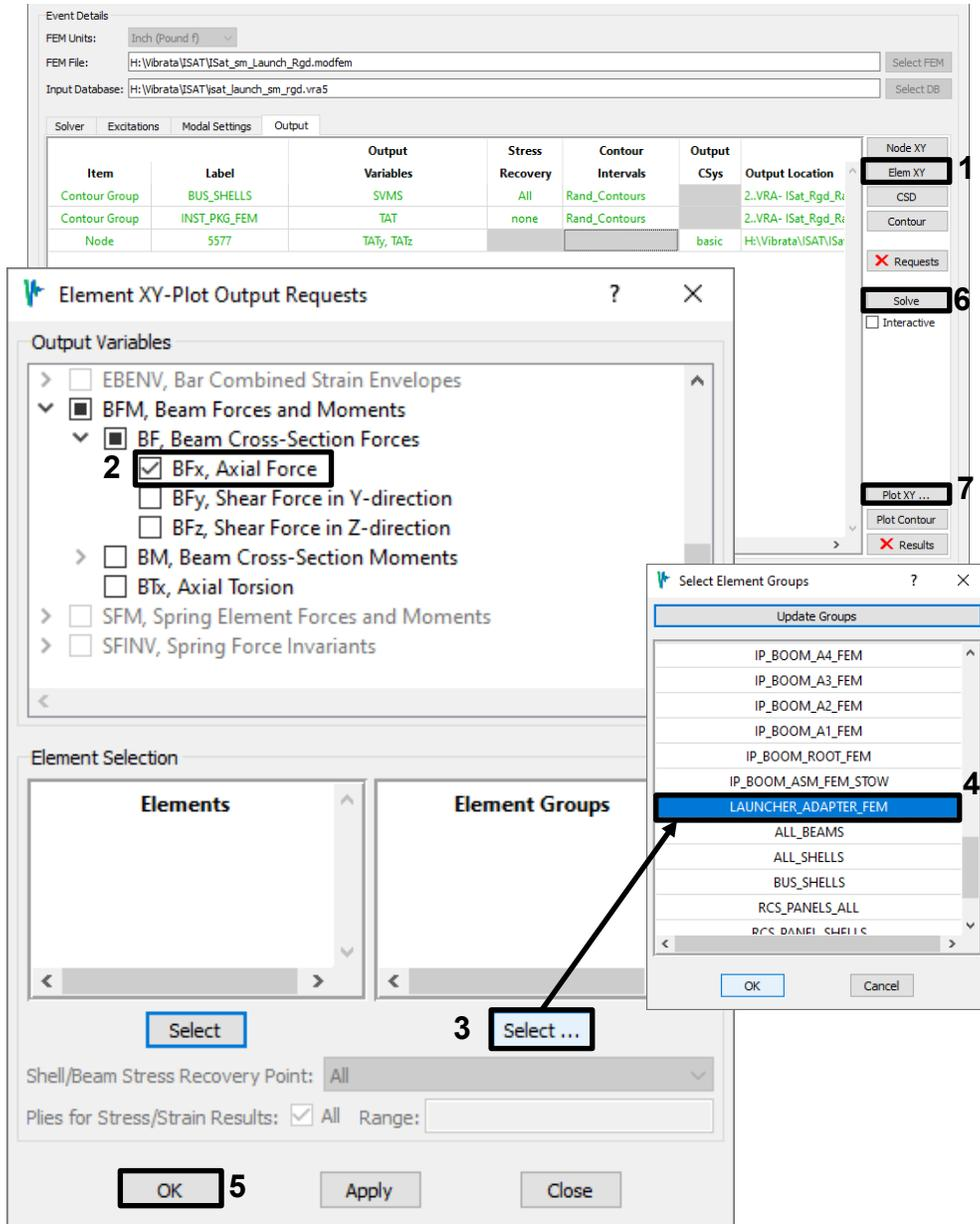
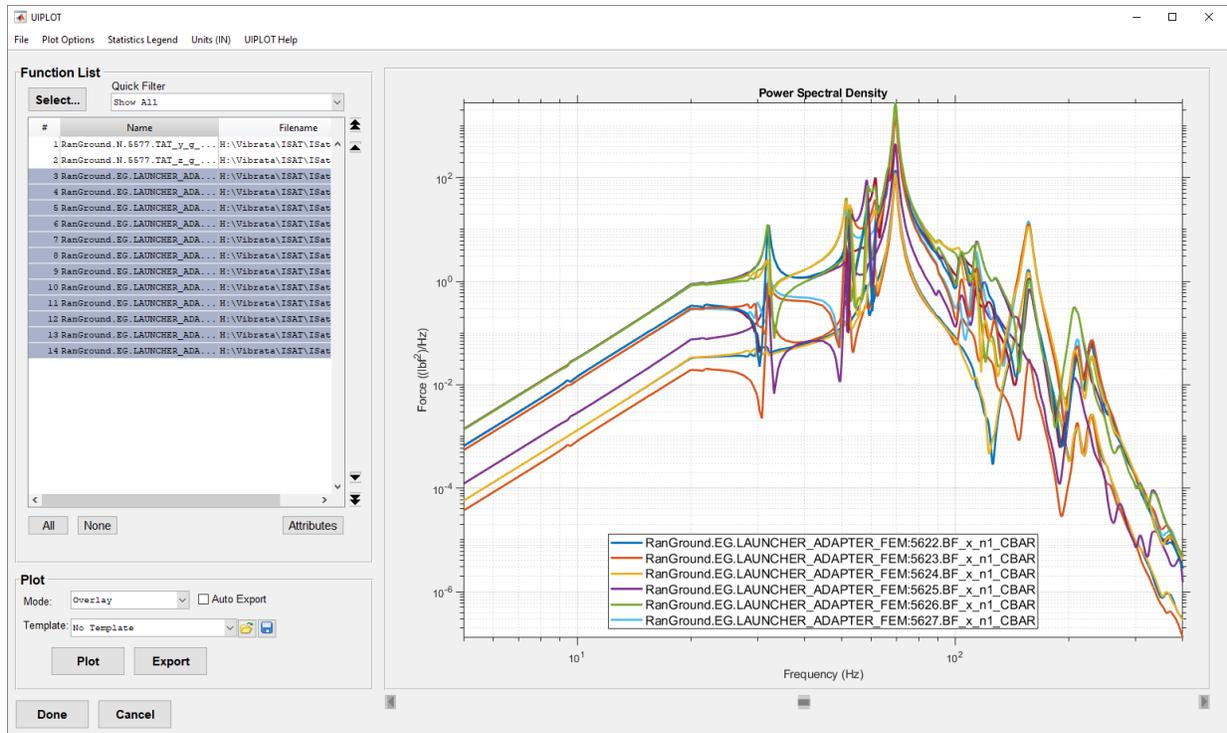

Figure 4-49. Request axial forces in the launcher adapter legs.
Figure 4-50. Axial forces in the launcher adapter legs, rigid base.
9. It is also important that we not exceed allowable loads in the launcher adapter legs. Request axial force responses for the elements in group "LAUNCHER\_ADAPTER\_FEM" (Figure 4-49). Solve and plot (Figure 4-50). The RMS values, along with other statistics about the functions, can be displayed using the *UIPLOT* dialog's *Statistics Legend* menu. Note that element 5632 has the largest RMS value.